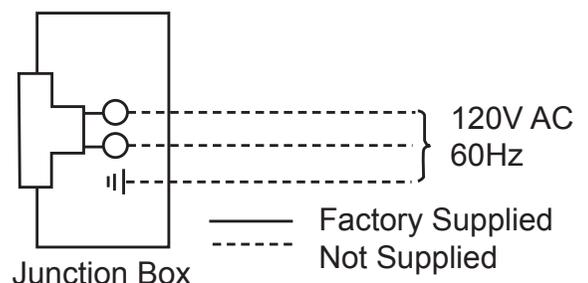

Figure 8.2 - Junction Box Wiring Diagram
3. The junction box cover has a factory installed “romex” style strain relief connector. After connecting the wires, route the wire leads through this connector. Refer to the wiring diagram in Figure 8.2.